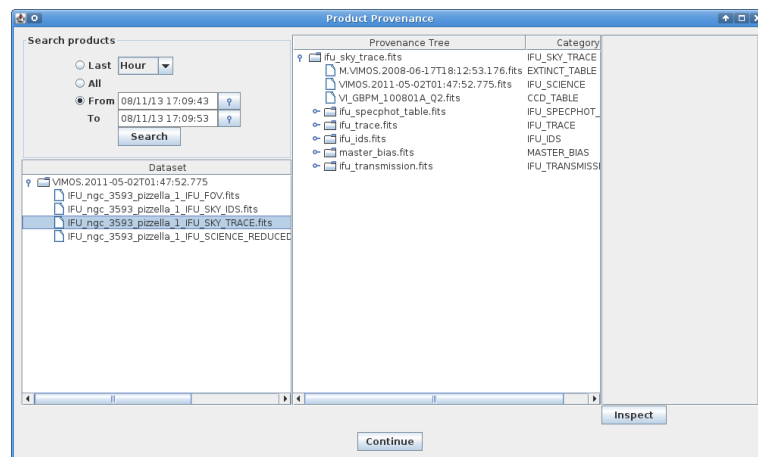

Figure 4.4: The Provenance Explorer shows all datasets reduced in previous executions together with the full reduction chain for all the pipeline products.
9. When the reduction of the current `DataSet` finishes, a pop-up window called *Product Explorer* will appear showing the datasets which have been so far reduced together with the list of final products. This actor allows the user to inspect the final data products, as well as to search and inspect the input data used to create any of the products of the workflow. Figure 4.4 shows the *Product Explorer* window.